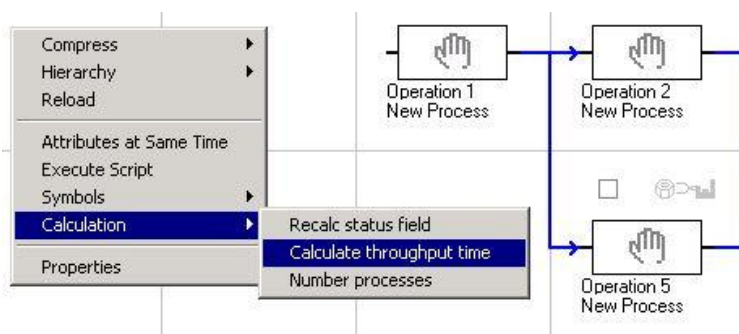

Figure 131: Start throughput Time Calculation – Context Menu
- 2) Press the right mouse button and select **Calculate throughput time** from the context menu. *Please refer to the Figure 131.*